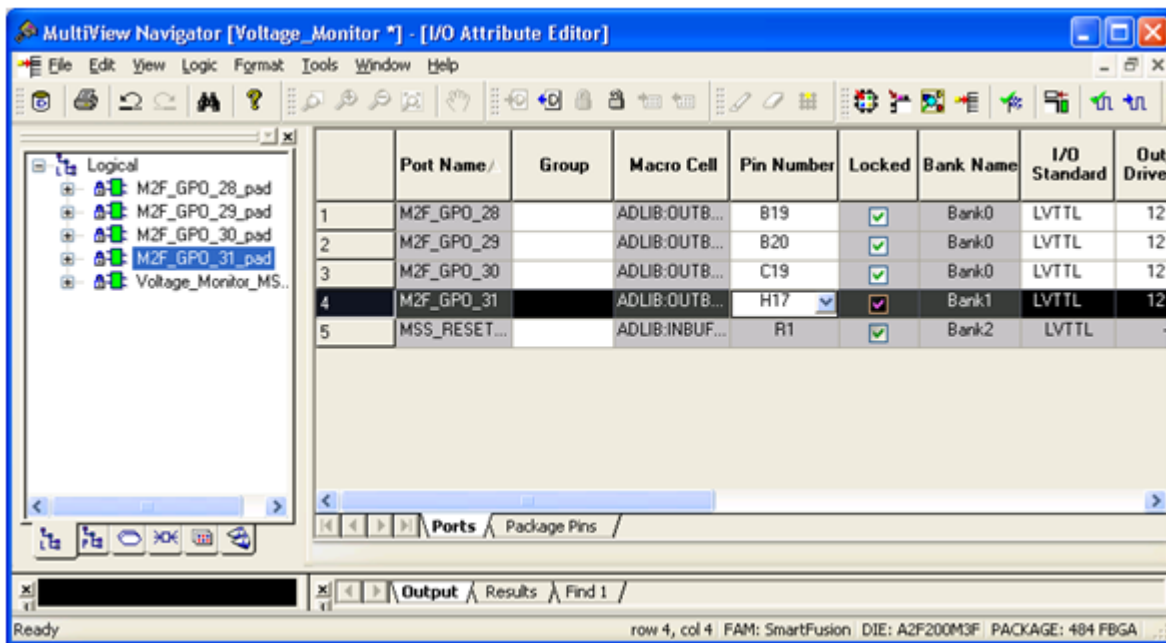

Figure 60 · MultiView Navigator GUI
2. Make the following pin assignments in **MultiView Navigator** window as shown in Figure 60 · :